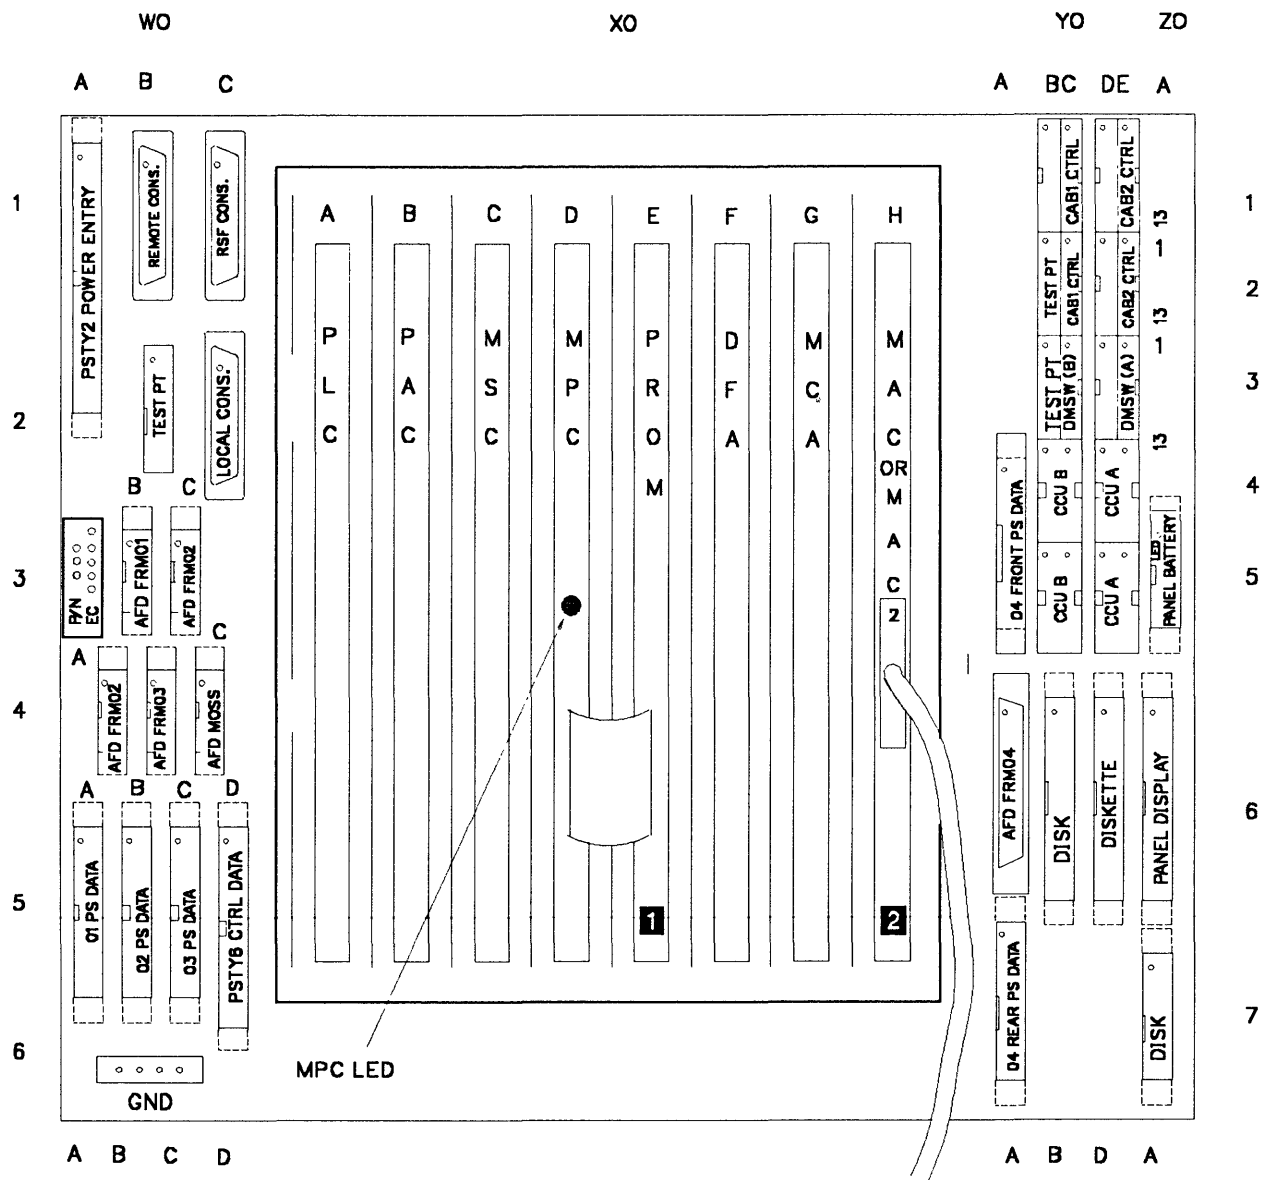

Figure 5-150. Cables and Cards of the MOSS
5. Refer to Figure 5-150 on page 5-149.
6. Refer to Figure 5-150.
7. Refer to Figure 5-150.
3. Refer to Figure 5-150 on page 5-149.
Install the cards in their correct locations according to their labels, refer to Figure 5-150 on page 5-149.